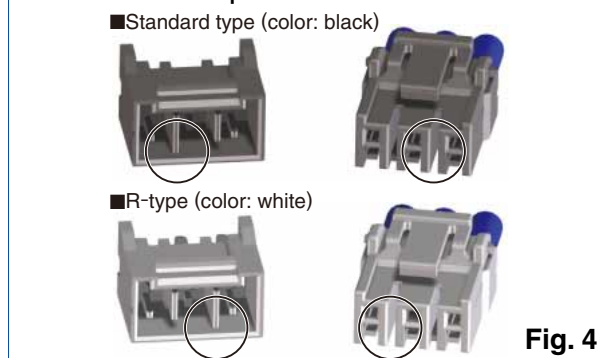

Fig. 4
A mechanism has been added to prevent reverse mating and incorrect mating between different number of positions. (Fig. 4)
* Keying options were provided to prevent incorrect connections. Keying options prevent incorrect connections due to the use of multiple connectors on the same board. When using identical pin counts, two versions are available with different keying options.(Fig. 4)